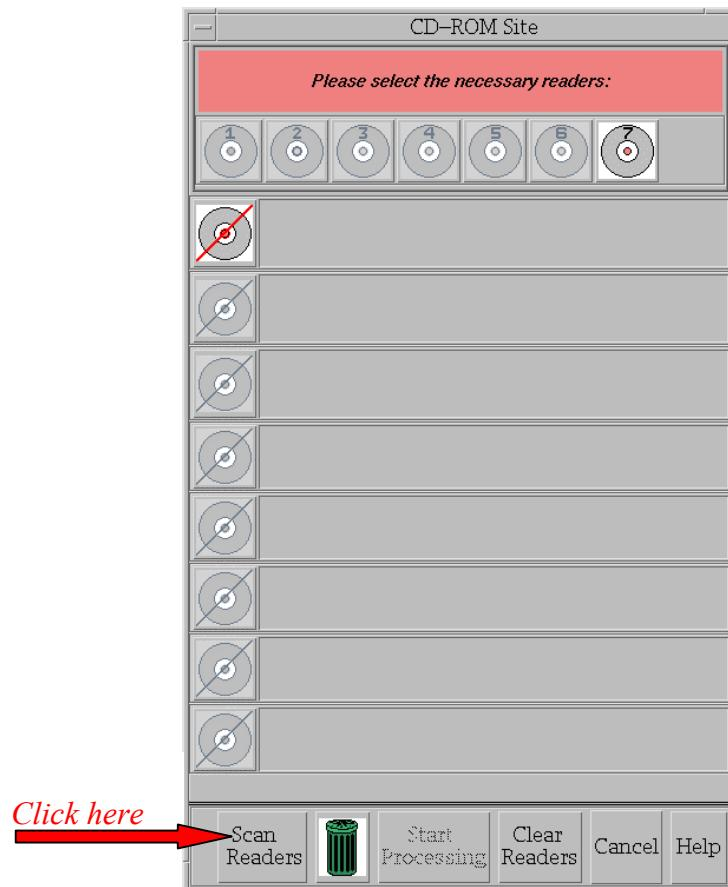

Fig. 5 – CD-ROM site window
- d. From the **CD-ROM Site Window**, select CD-ROM drive 7, click on *Scan Readers* (Fig. 5).
- iv. From the **CD-ROM Site Window**, select CD-ROM drive 7, click on *Scan Readers* (Fig. 5).
- From the **CD-ROM Site Window**, select CD-ROM drive 7, click on *Scan Readers*, then *Start Processing* (Fig. 5).
- ii. From the **CD-ROM Site Window**, select CD-ROM drive 7, click on *Scan Readers*, then *Start Processing* (Fig. 5).